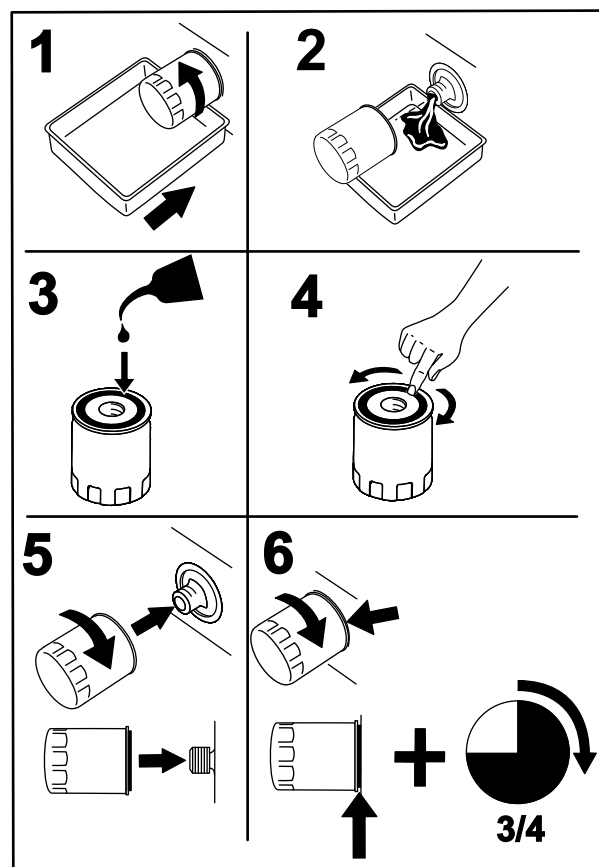

Figure 49
- Change the engine oil filter (Figure 49).